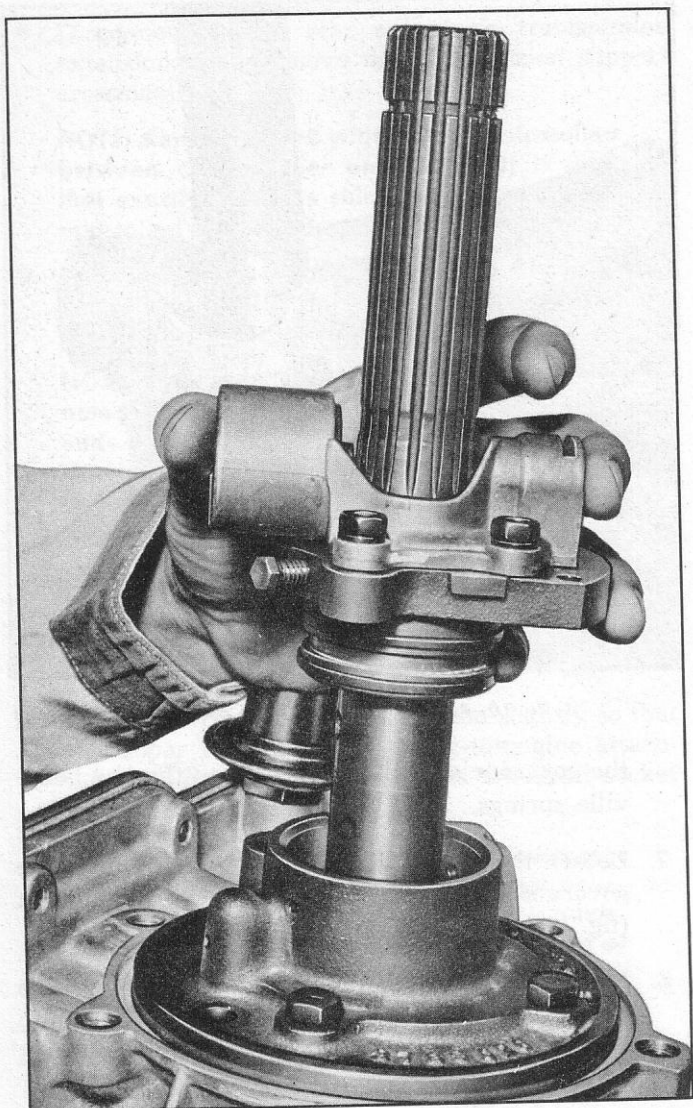

Fig. 11—Removing Governor Assembly
7. Loosen the governor drive screw and remove the governor assembly over the end of the output shaft (fig. 11).